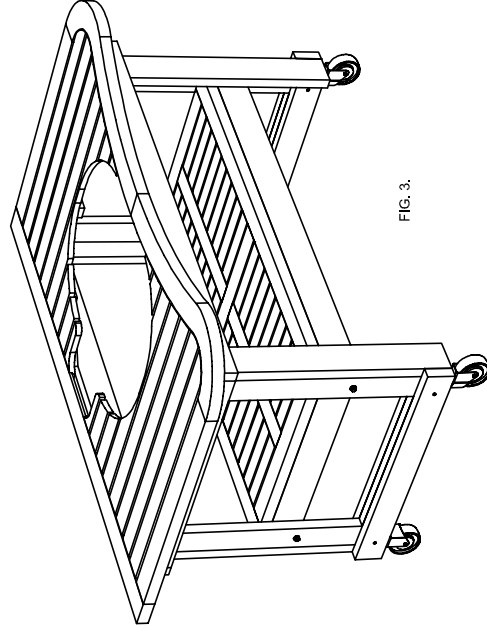

FIG. 3.
- 5.) USING WRENCH GO BACK AND TIGHTEN ALL (8) BOLTS
- 6.) TABLE IS NOW READY TO HAVE GRILL LOWERED INTO PLACE. (FIG. 3) MAKE SURE THAT HINGE SIDE OF GRILL IS ORIENTED WITH CUT-OUT IN TABLE TOP.